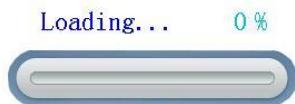

Figure 4.2.1 Boot interface
- ⑤ Ua, Ub, Uc, Ia, Ib, Ic: Switching key of voltage and current output;
- ⑥ 0.5L, 0.8L, 1.0, 0.8C, 0.5C : Power factor key;
- ⑦ ACB: Positive / reverse phase sequence switching key;
- ⑧ Forw.: Forward current / reverse current switch key;
- ⑨ Adjust: Adjust the rise and fall of voltage and current amplitude; Adjust voltage and current phase lead lag;
- ⑩ U/I/Ø : Adjustment selection keys of voltage, current orphase;
- ⑪ ABC/A/B/C: Adjustment selection keys for combining or dividing elements.
- display lights up and displays the picture as shown in Figure 4.2.1, indicating that the power supply is normal;